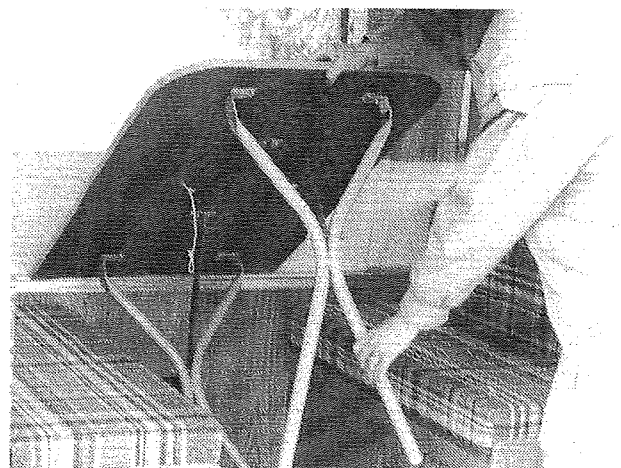

FIGURE 31
3. Extend the table legs completely so that both leg supports lock into position. Set table upright and check to insure it is stable. See Figure 31.